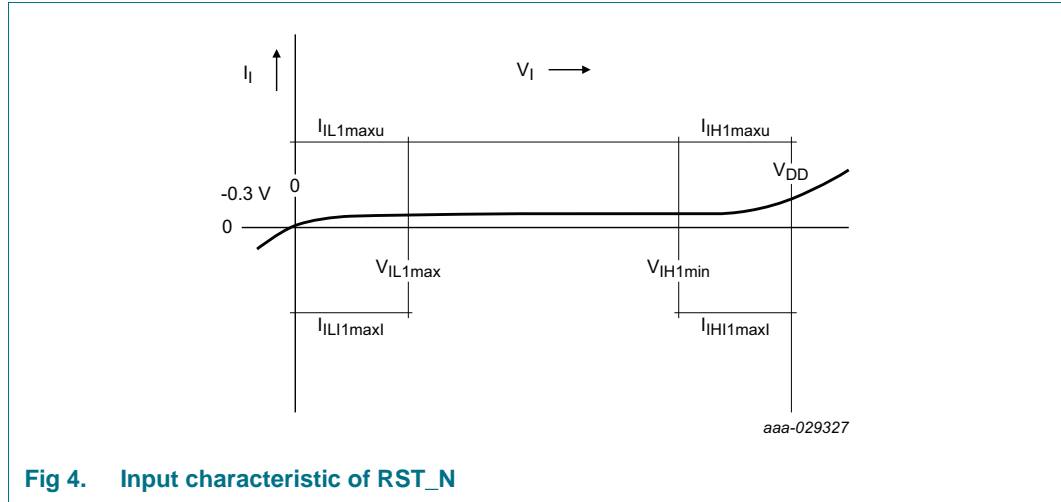

Fig 4. Input characteristic of RST_N
- [3] The active low RST_N input internally has a resistive pull-down device to VSS. Accordingly a current is flowing into the pad voltages above 0 V. Figure 4 shows the RST_N input characteristic.